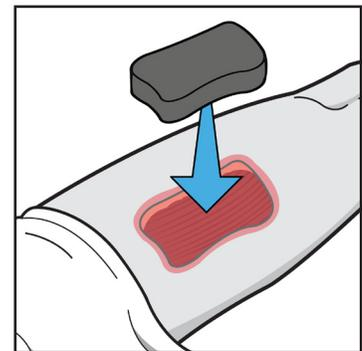

Figure 4
8. Place the black foam in the wound, taking care to avoid contact with the peri-wound skin (**Figure 4**). Black foam should be higher than skin level and cover the entire wound base. Black foam may be stacked for deep wounds.